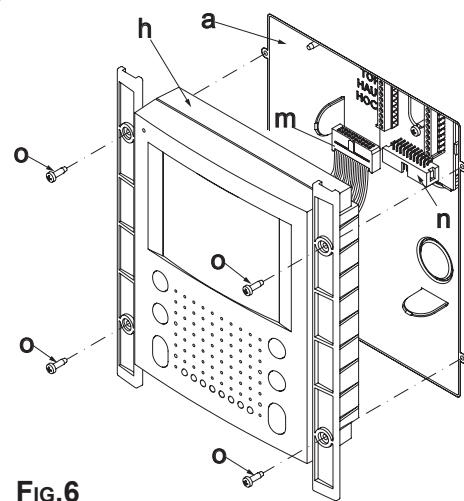

FIG.6
- As shown on figure 6, move the videophone "h" close to the back box, connect the plug "m" on the ribbon cable from the videophone to the plug "n" on the pcb connection board then fix the videophone "h" to the back box "a" using the four screws "o";